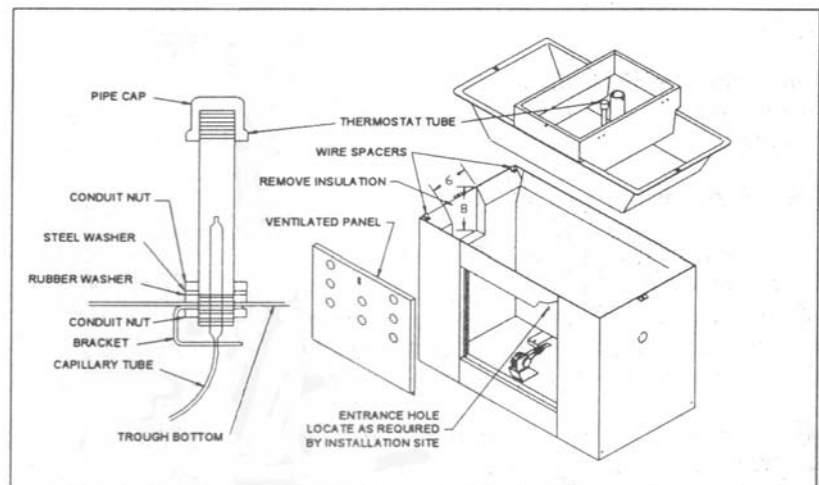

Figure 1
2. Remove a portion of the casing insulation as shown in Figure 1 (at least 8 inches vertical by 6 inches horizontal). This should be on the end of the unit that is opposite drainpipe for flue gases to escape. Access panel should also be on downwind side.
3. Raise the end of the trough that the insulation has been removed to install a piece of #9 gauge wire bent into a "V" shape (2 required), to space the trough above the casing to allow flue gases to escape. See Figure 1.
4. On new installations, it is desirable for gas line to enter under the concrete. If necessary, make an entrance hole in the casing for the gas supply line to enter. If gas line enters through casing side, there should be a protective conduit to prevent damage to copper tubing. See Figure 1.